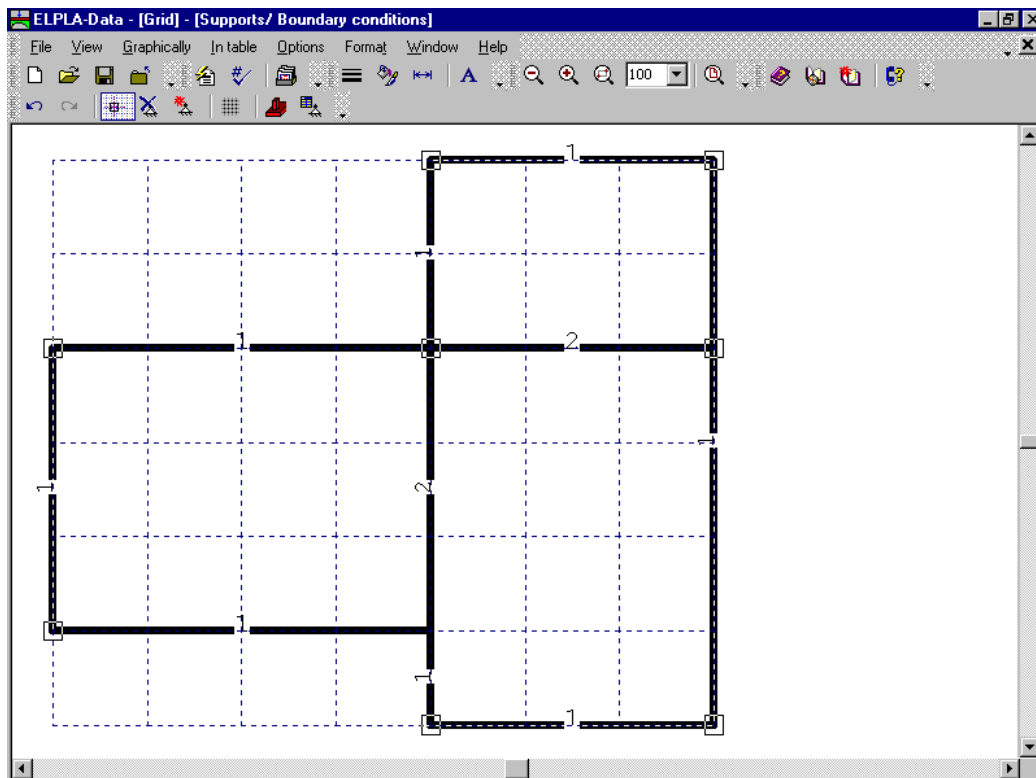
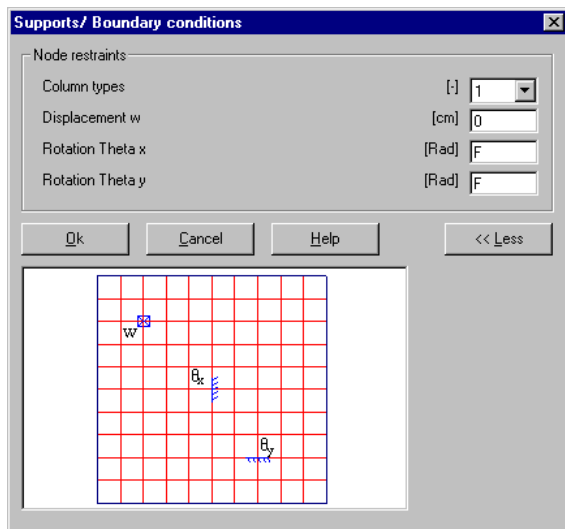

Figure 4-21 Selection of nodes that have supports
Figure 4-22 "Supports/ Boundary conditions" dialog box
- Click the left mouse button on nodes that have supports as shown in Figure 4-21
- After selecting nodes of supports choose "Add boundaries" command from "Graphically" menu in Figure 4-21. "Supports/ Boundary conditions" dialog box in Figure 4-22 appears